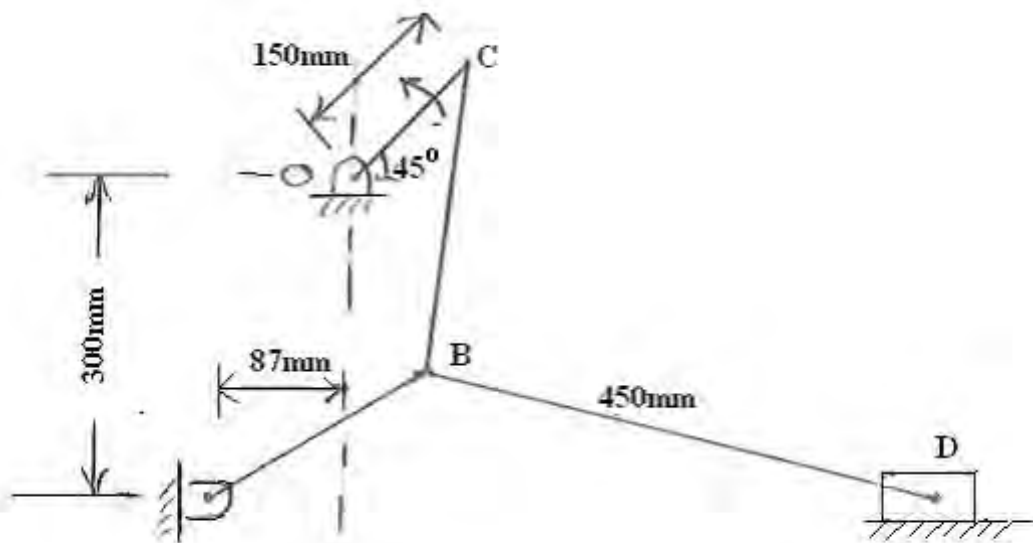

Figure 6
6. In the mechanism shown figure6 D is constrained to move on a horizontal path. Find, for the given configuration, the velocity and acceleration of D and the angular velocity and acceleration of BD when OC is rotating in a counter-clockwise direction at a speed of 180 r.p.m., increasing at the rate of 50 rad/s². [16]